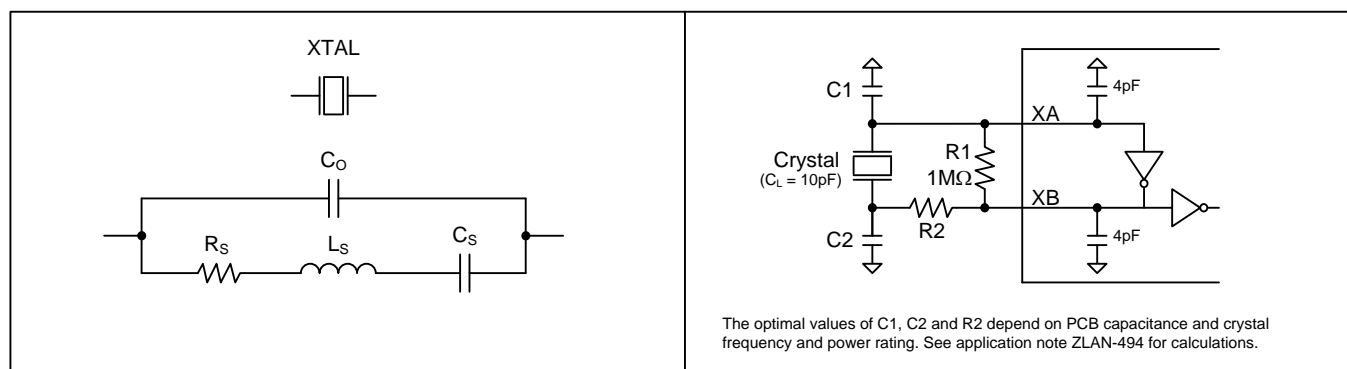

Figure 7 - Crystal Equivalent Circuit / Recommended Crystal Circuit
See Figure 7 for the crystal equivalent circuit and the recommended external capacitor connections. To achieve a crystal load (CL) of 10pF, an external 16pF is placed in parallel with the 4pF internal capacitance of the XA pin, and an external 16pF is placed in parallel with the 4pF internal capacitance of the XB pin. The crystal then sees a load of 20pF in series with 20pF, which is 10pF total load. Note that the 16pF capacitance values in Figure 7 include all capacitance on those nodes. If, for example, PCB trace capacitance between crystal pin and IC pin is 2pF then 14pF capacitors should be used to make 16pF total.